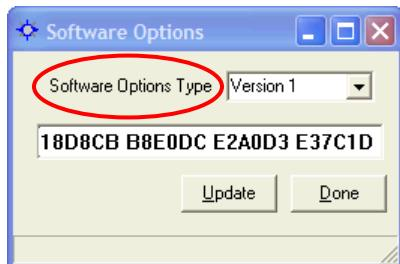

Figure 120: Software Options Type
8. Select *Version 1* or *Version 2* from the *Software Options Type* drop-down menu (see Figure 120).